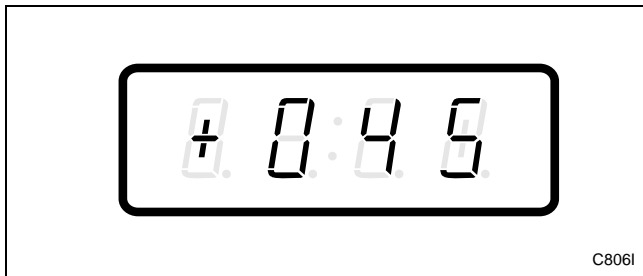

Figure 133
- Press the DELICATES (+) or the COLD (-) keypad to scroll through the programmable options until “+045” appears in the VFD. Refer to *Figure 133*.